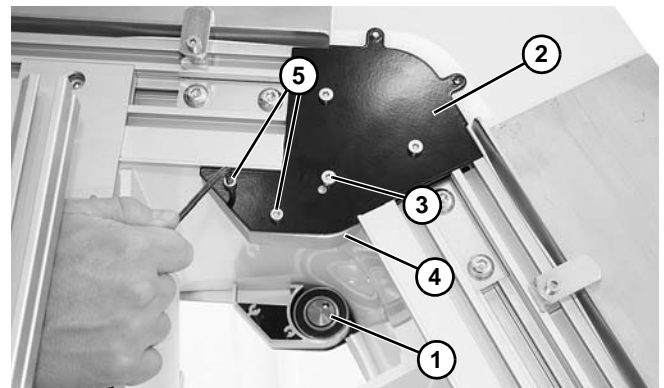

Figure 56
3. If equipped, install return roller bearing (**Figure 56, item 1**) into knuckle plate (**Figure 56, item 2**) using screws (**Figure 56, item 3**) on both sides of conveyor.
4. Install knuckle guard (**Figure 56, item 4**) on both sides of conveyor with screws (**Figure 56, item 5**). Tighten screws to 25 in-lb (3 Nm).